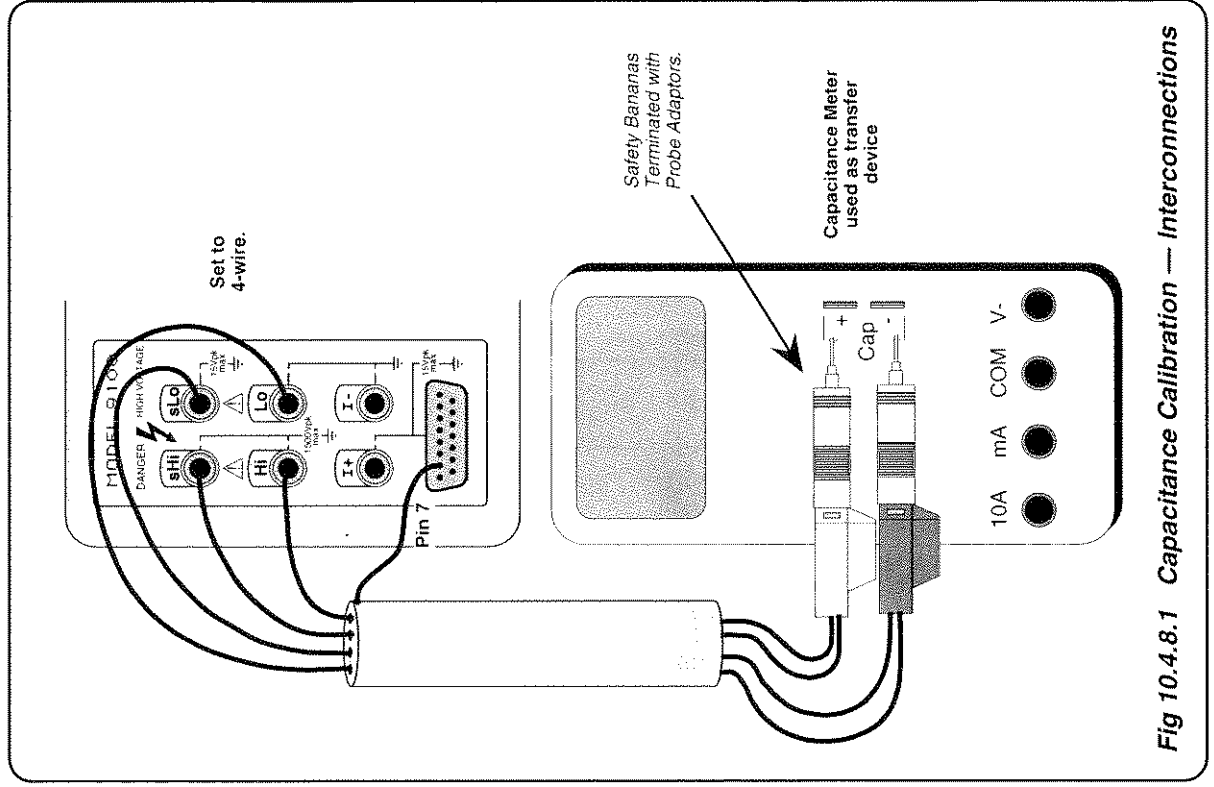

Fig 10.4.8.1 Capacitance Calibration — Interconnections
1. **Connections** Ensure that the 9100 is connected to the capacitance meter as shown in *Fig. 10.4.8.1*, and that both instruments are powered on and warmed up.